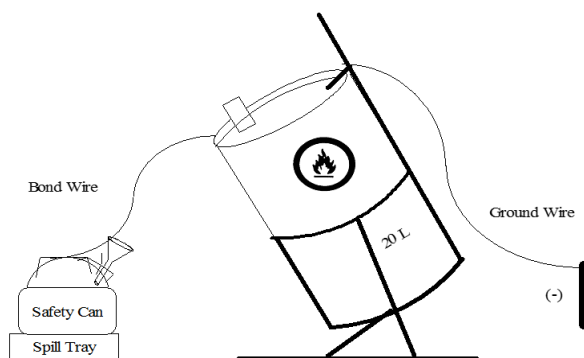

Fig. 1
- Ensure cans are properly grounded (see Fig. 1). Grounding wire must be securely attached to 20 L can one end and the other attached to the wall mounted metal bus strip. Verify screw clamps are tight before proceeding.
- Attach bonding wire from 20 L can to safety can. (see Fig. 1)